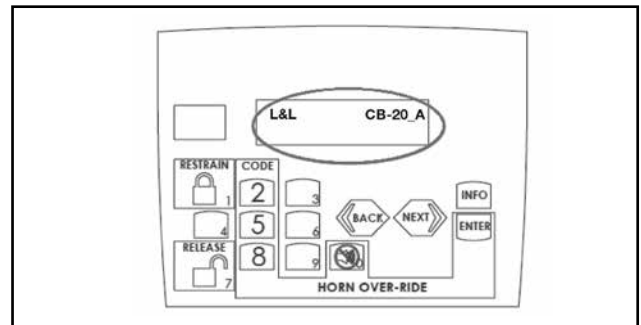

Figure 5-6-6 Standard PLC screen
- g. Verify PLC screen shows “L&L CB-20_A” as shown in figure 5-6-6.